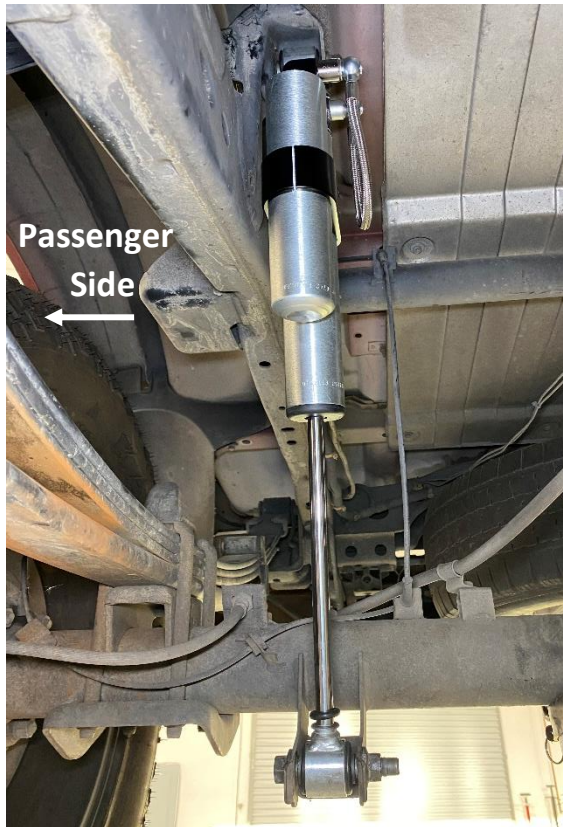

Figure 3. Passenger Side
- B. Before installing the shock/reservoir assemblies on the vehicle, use the supplied billet aluminum "piggyback" reservoir bracket to mount each reservoir to its shock body. Position the reservoir for the left (driver) side as depicted in Figures 1 and 2. Position the reservoir for the right (passenger) side as depicted in Figures 3 and 4. Ensure the hose is not rubbing against the shock tube in the static position. The hose fittings are designed to swivel and will allow the reservoir and hose to be easily moved.